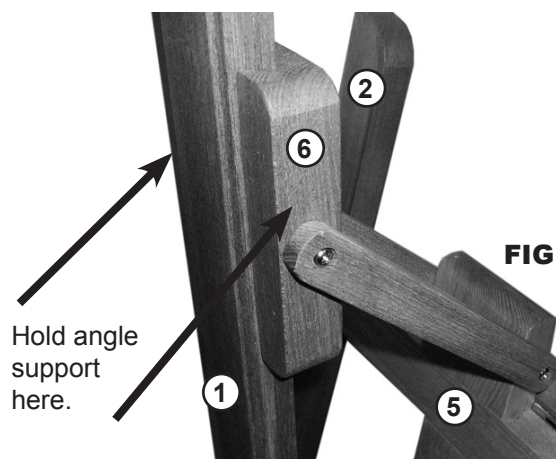

FIG ADJ 2
To move the center column (1) into a negative (forward) position, you must swing the Center Column Angle Support piece forward. Do so by holding the outer edges of the Angle Support (6) and pulling it outward until your desired position is achieved. See FIG ADJ 2 below.